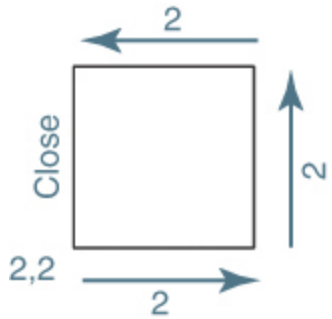

Figure 5-9
- 13 Save your drawing. Your drawing should look like Figure 5-9.